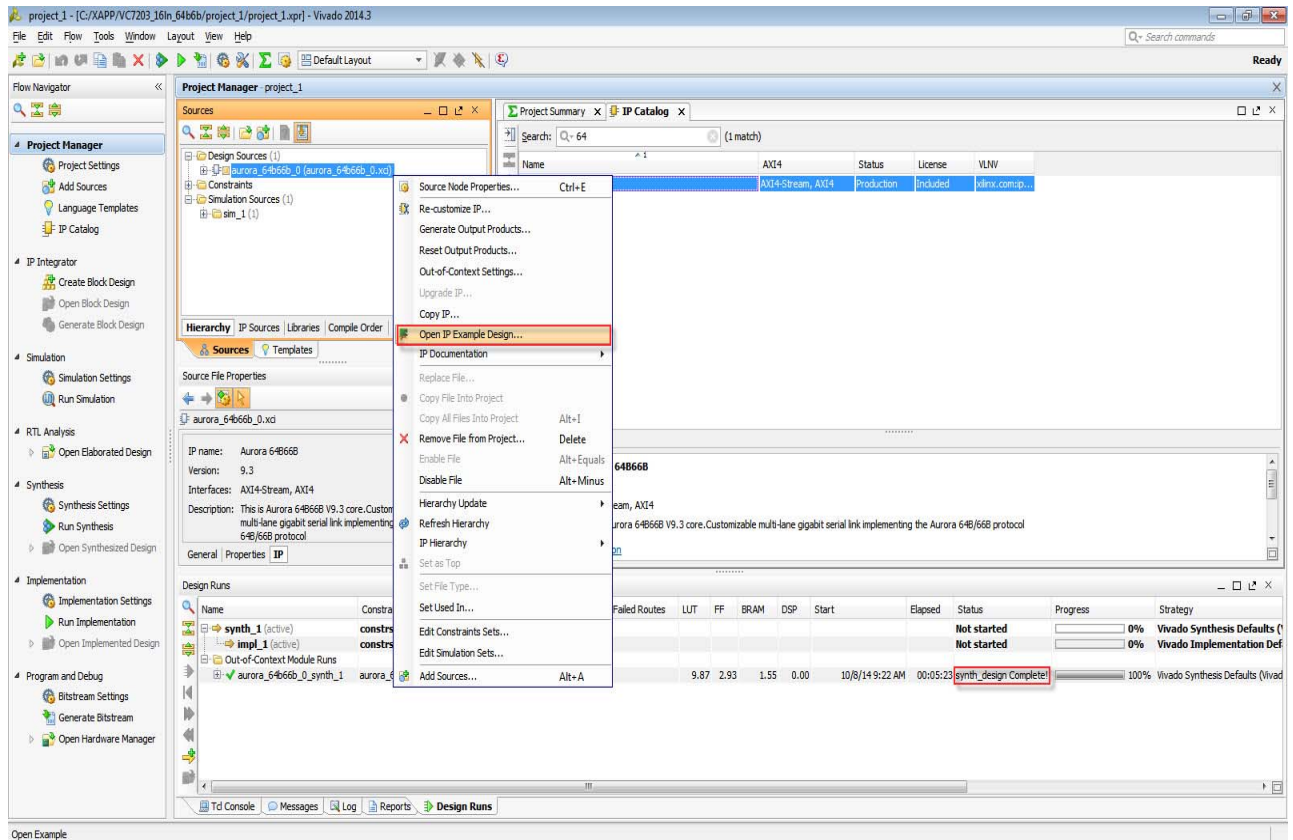
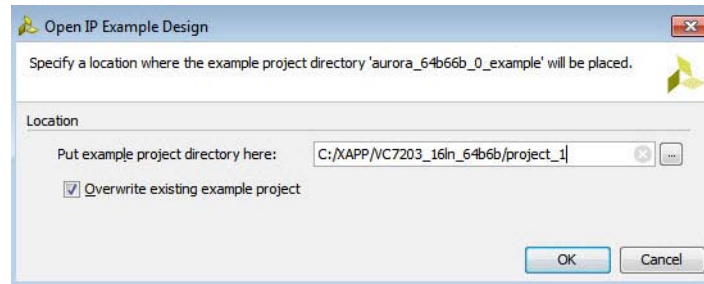

Figure 15: Open Example Design
Figure 16: Path for Example Design
2. Click **OK** after checking the **Overwrite the existing example project**. See Figure 15 and Figure 16.